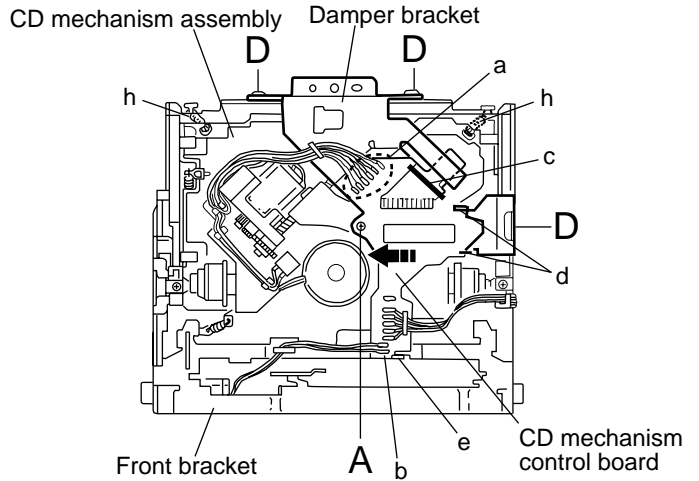

Fig.1
**■ Removing the CD mechanism control board (See Fig.1 and 2)**
(See Fig.1, 6 to 9)**